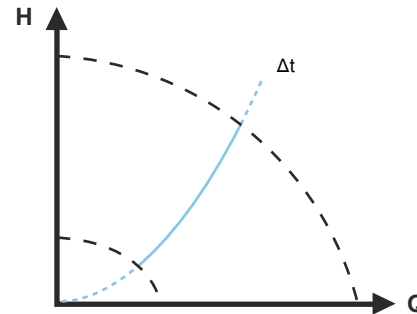

Fig. 23 Differential temperature
- Ensures a constant differential temperature between the pump and the external sensor, see figs 23 and 24.